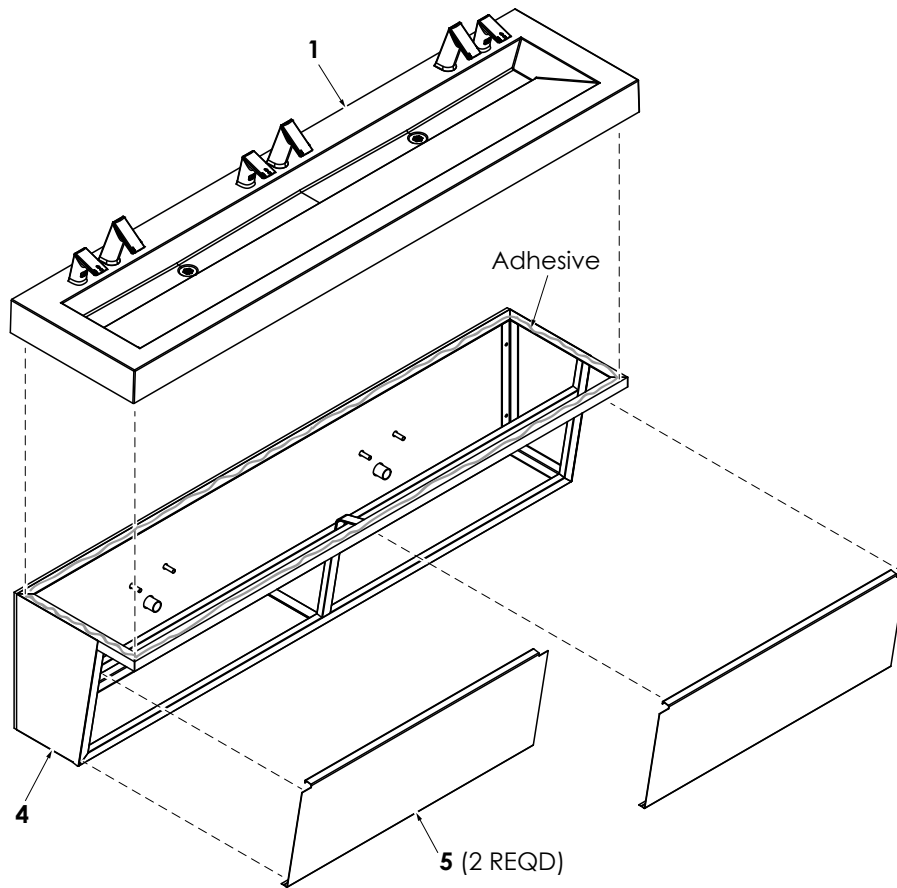

Figure 21
7. Install Deck (1, Figure 21) onto Enclosure (4).